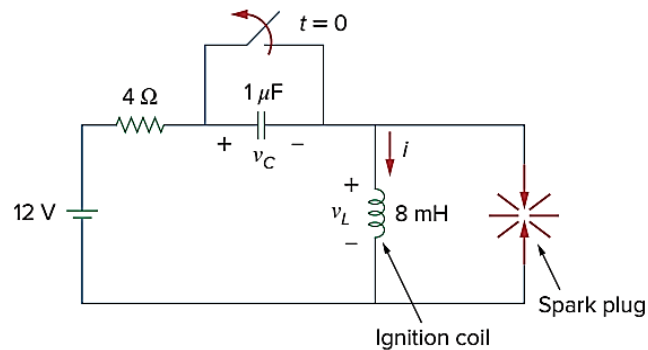

Figure 6
6. From an Automobile Ignition System, we consider the voltage generating system. The system is modeled by the circuit shown in the figure 6 below. The **12-V** source is due to the battery and alternator. The **4-Ω** resistor represents the resistance of the wiring. The ignition coil is modeled by the 8-mH inductor. The 1-μF capacitor (known as the condenser to auto-mechanics) is in parallel with the switch (known as the breaking points or electronic ignition which **opens at $t=0$ s**).